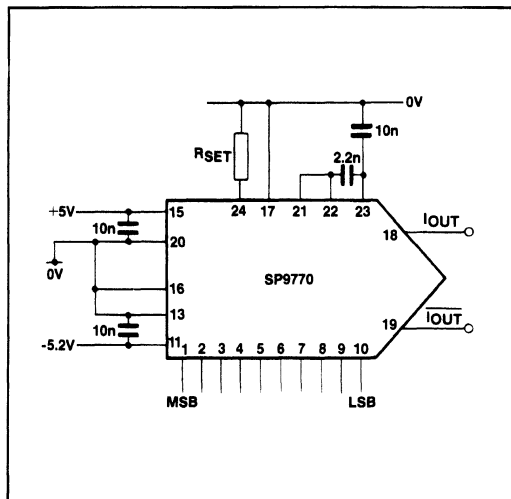
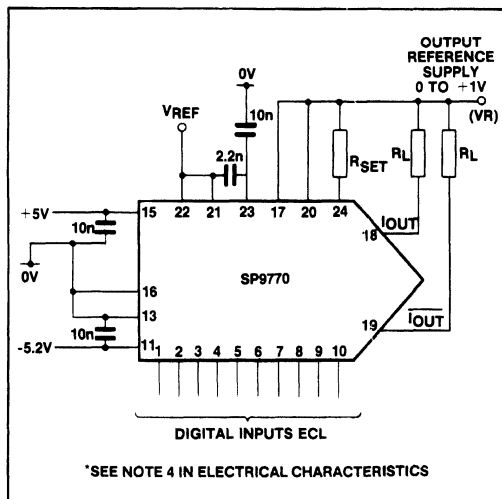

Fig.3 Conventional D/A operation using on-chip reference
Fig.4 Voltage output referred to a positive voltage for outputs biased above ground
- The output positive compliance can be increased beyond +1.0V at the expense of linearity. See Fig.4 for circuit configuration.
The reference supply is internally compensated; however, to reduce the possibility of instability or noise generation, pin 21 should be decoupled as shown in Fig.4. The current loop technique has been used with a high performance loop amplifier. The current is set by an external resistor as described above. Stabilisation of the loop amplifier is achieved by a single capacitor from pin 23 to ground. Minimum value is 3900pF, although a 10nF chip ceramic is recommended.
Fig.3 shows a suggested circuit for a conventional D to A using the on-chip voltage reference.
Fig.4 shows the method of using the SP9770 with a load resistor not referred to ground, allowing a larger output swing than the conventional connection of Fig.3. Connecting pins 17 and 20, and the current setting resistor  $R_{SET}$  to the load reference supply ensures that the scale factor of the output is independent of the load reference.